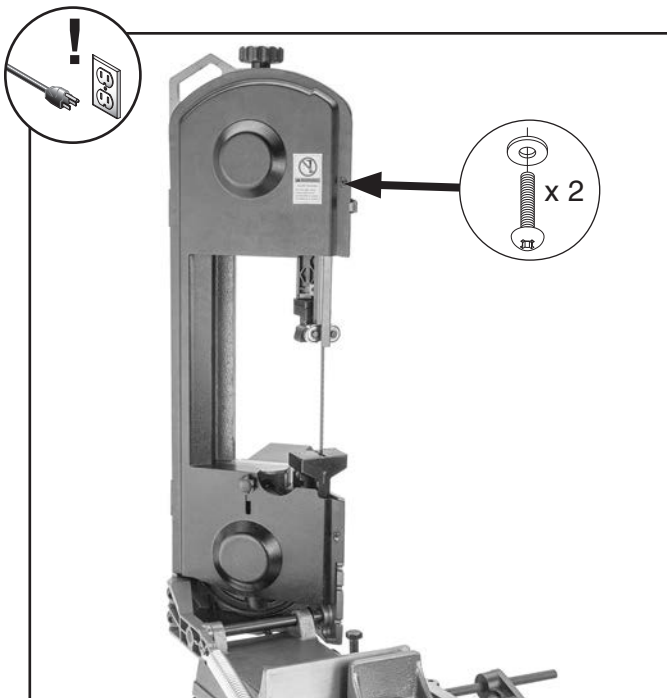

Figure 50. Location of Phillips head screws.
3. Remove (2) Phillips head screws and flat washers shown in **Figure 50**.